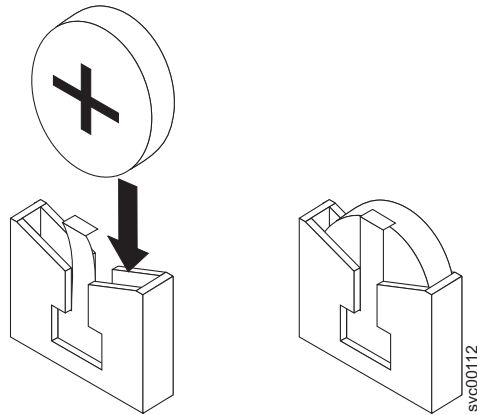

Figure 140. CMOS battery socket
- c. Slide the battery down until it snaps into place, as shown in Figure 140.